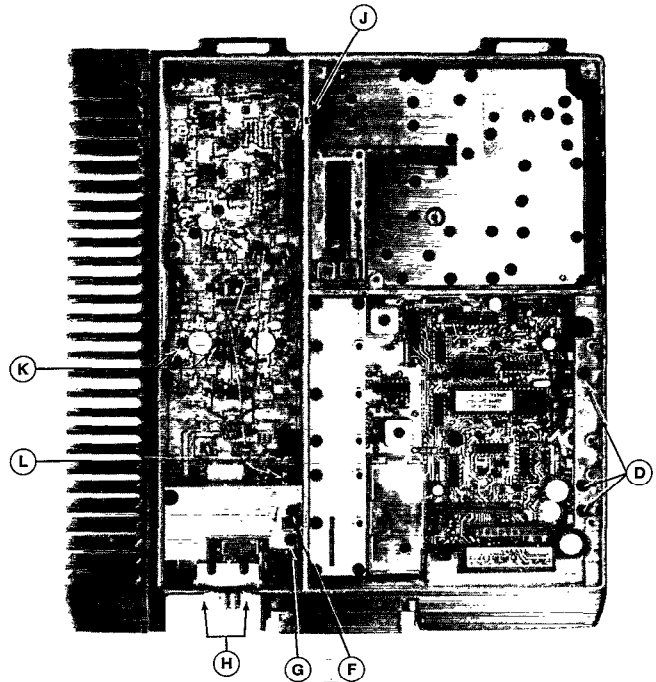
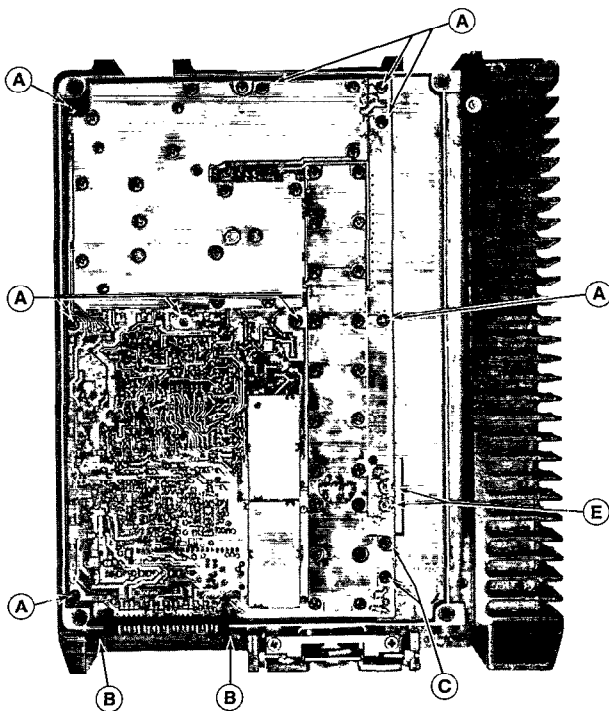

Figure 2 - Disassembly Procedure Top View
Figure 1 - Disassembly Procedure Bottom View
2. Remove the eleven #15 TORX retaining screws (A) (Figure 1) securing the circuit board to the main frame.
3. Remove two #9 TORX retaining screws (B) securing systems connector J601 to front casting.
4. Unsolder the two feed through capacitor terminals (E) on printed wire pattern.
5. Turn over the radio and remove the three retaining screws (D) (Figure 2) securing the audio bridge amplifier, U601 and U602, and the 5 and 9 volt regulators U702 and Q705 to the side of chassis.